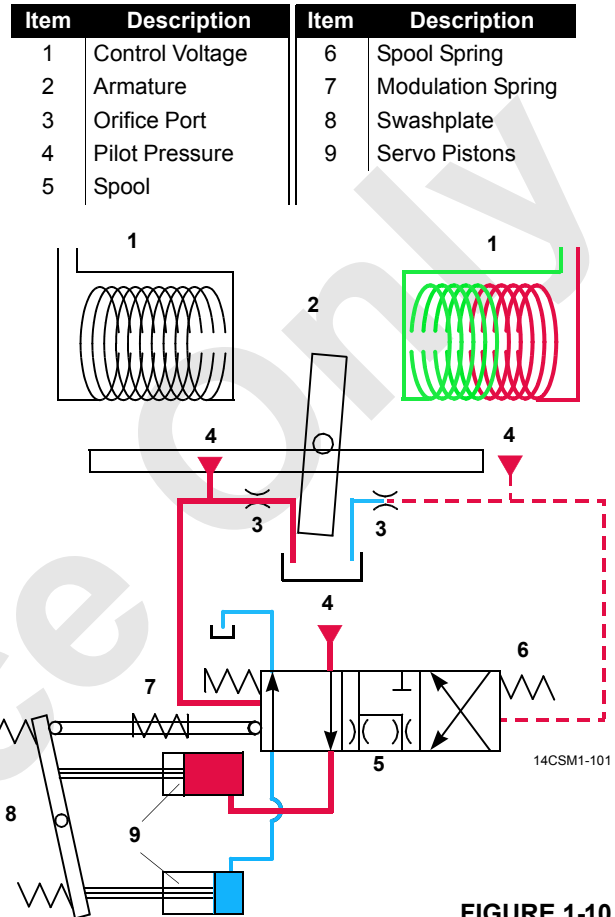
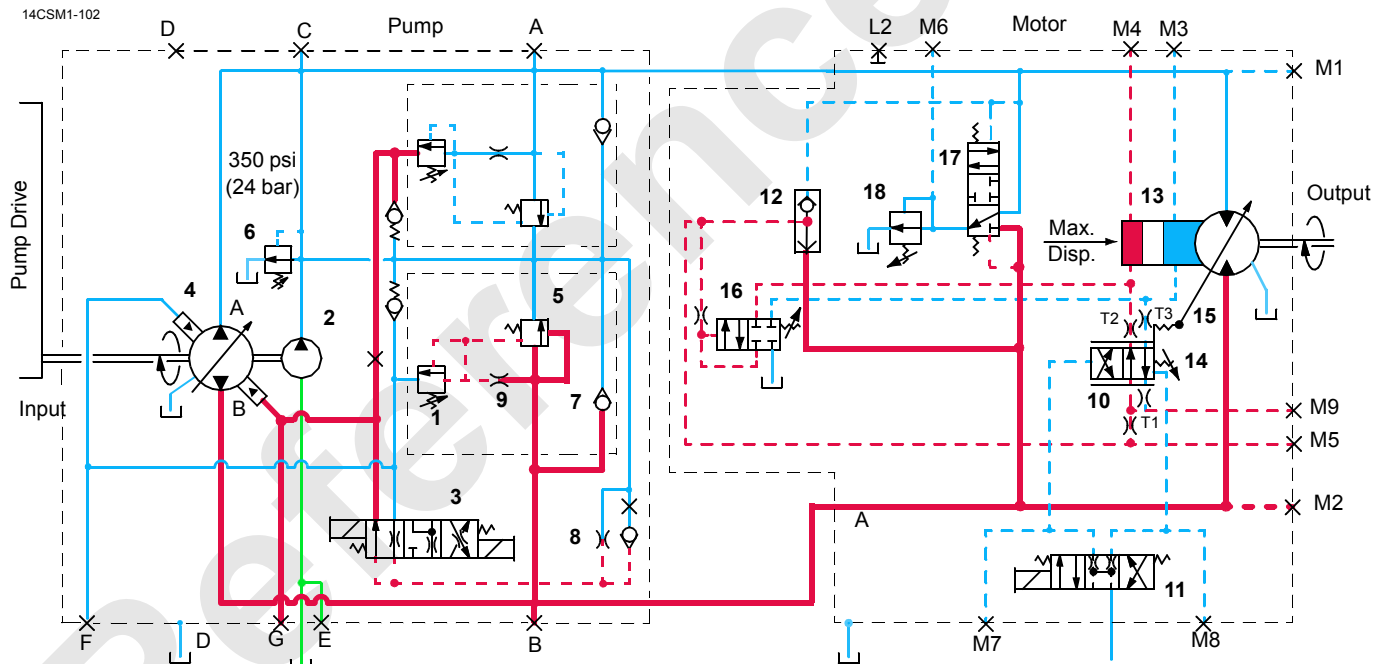

FIGURE 1-10
FIGURE 1-11
See Figure 1-10 or Figure 1-11 for the following procedure.
Control). The output current magnetizes an armature (Figure 1-10) and starts to block one of the orifice ports, depending on command direction.
Hydraulic fluid pressure overcomes spring resistance in pressure limiting relief valve (1, Figure 1-11), shifting spool to open a line for fluid pressure. Servo check valve (2) is spring loaded with an opening pressure of 750 psi (52 bar).